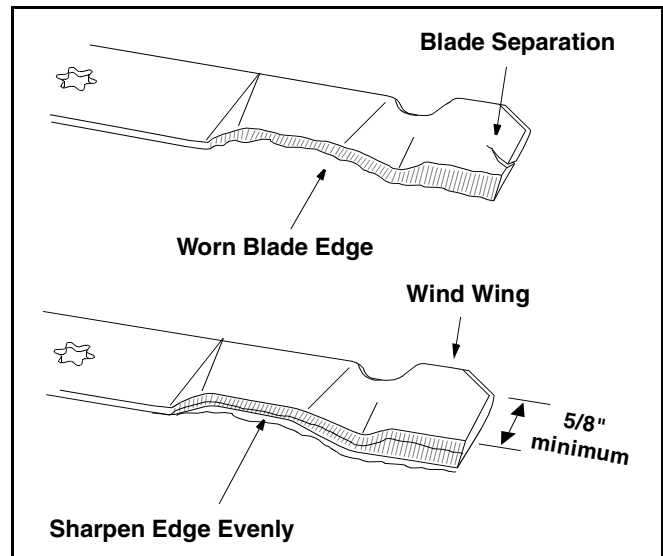

Figure 20
To properly sharpen the cutting blades, remove equal amounts of metal from both ends of the blades along the cutting edges, parallel to the trailing edge, at a 25° to 30° angle. See Figure 20.
**IMPORTANT:** If the cutting edge of the blade has already been sharpened to within 5/8" of the wind wing radius, or if any metal separation is present, replace the blades with new ones. See Figure 20.